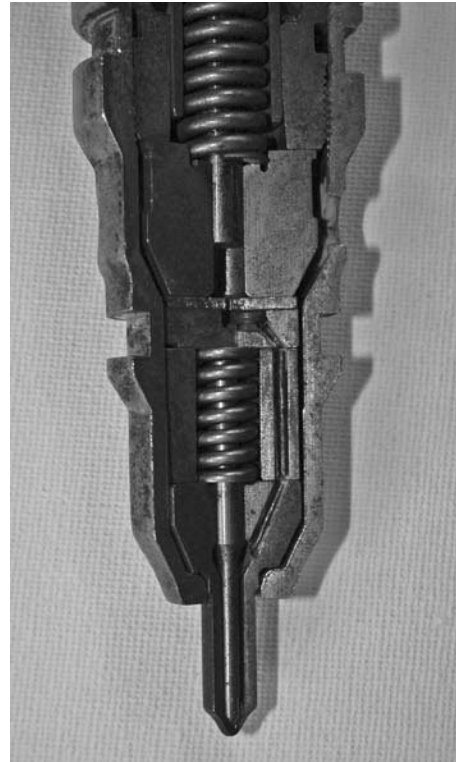

Figure 13-3 Sectional view of the hydraulic nozzle subassembly in a HEUI injector assembly: in this, the hydraulic nozzle is a subcomponent.
- hydraulically actuated, electronic unit injectors (HEUIs) as a subcomponent (see **Figure 13-3** for a sectional view of a HEUI, focusing on the multiple-orifice nozzle assembly)